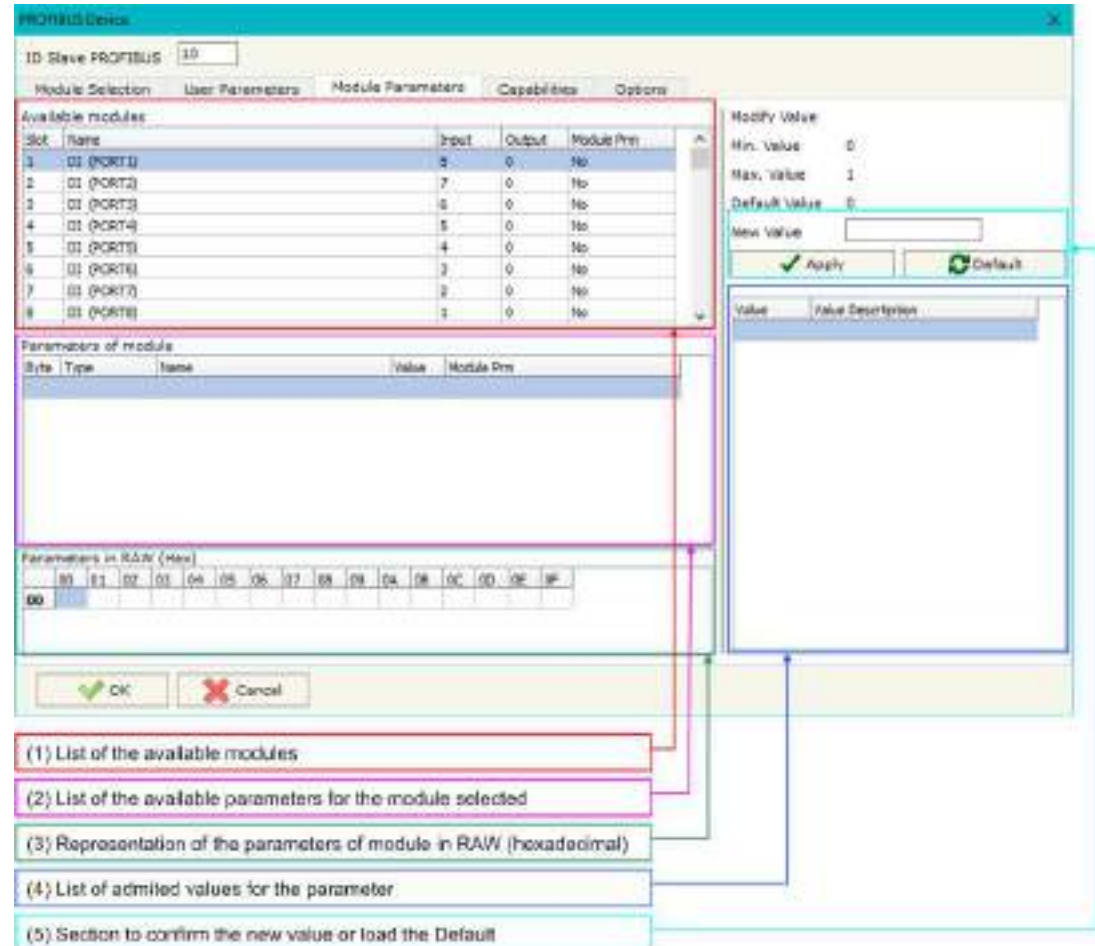

Figure 11: “PROFIBUS Device – Module Parameters” window
The section “Module Parameters” is used to modify the parameters of the Modules (Fig. 11).
- The List of all Module selected in the GSD file (“Available modules”) (Fig. 11, point (1));
- The List of all Parameters available for the Module selected (“Parameters of module”) (Fig. 11, point (2));
- The Configuration of all parameters in RAW for the Module selected (“Parameters in RAW (Hex)”) (Fig. 11, point(3));
- The admitted value for the selected parameter. It is possible to select the value desired and confirm it with the “**Apply**” button. If no value appears in this table, the “Min Value” and “Max Value” are the limit of the parameter. (Fig. 11, point(4));
- The “**Apply**” button is used to confirm the new value of the parameter, the “**Default**” button is used to load the factory value for the parameter. In “**New Value**” edit box it is possible to set the new value. (Fig. 11, point(5)).